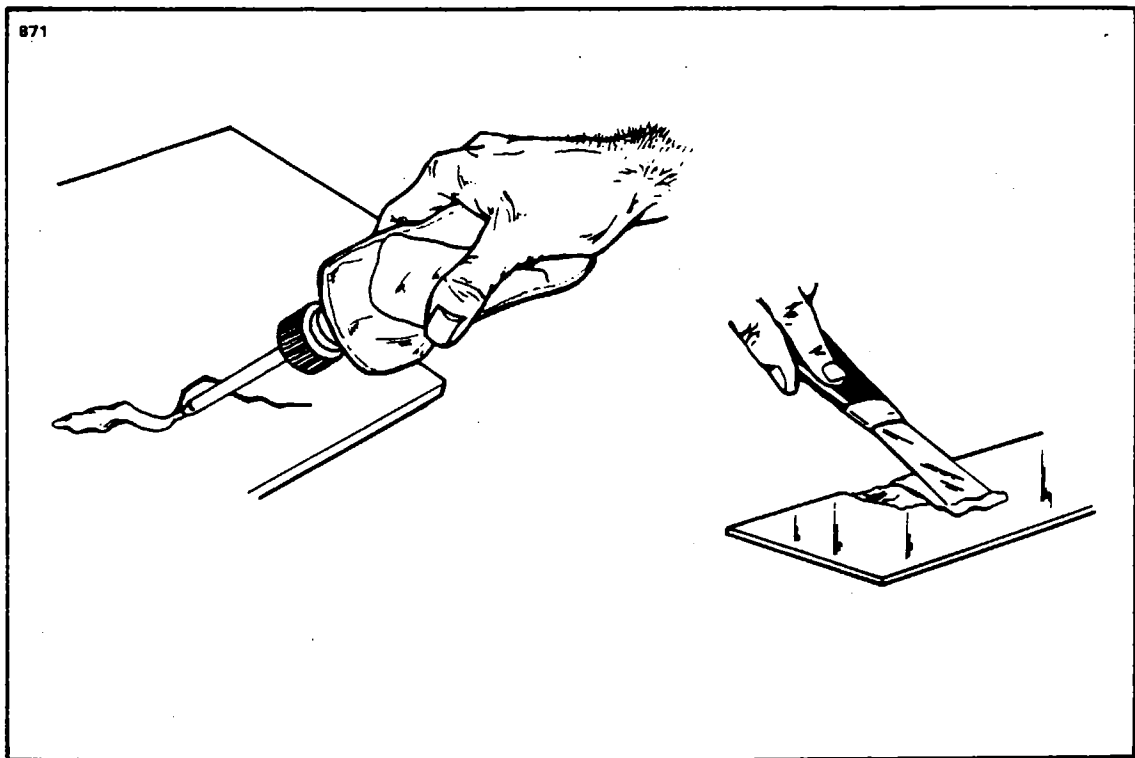

Figure 4-7. Deep Scratches, Shallow Nicks and Small Holes.
c. Deep Scratches, Shallow Nicks and Small Holes: (Less than 1 inch in diameter.) (Refer to Figure 4-7.)